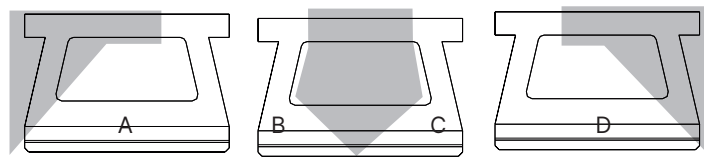

Fig 1: Position Blocks On Base And Level
- Position the cut blocks on the compacted granular base material (Fig. 1).
- Using a small torpedo level, level the blocks from side to side and front to back (Fig. 1).